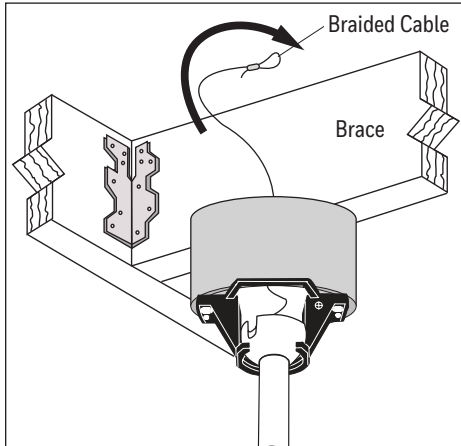

Figure 4.1
- 1. WARNING:** Secondary support is required for this product. Failure to follow the steps below could result in property damage and/or personal injury. Feed the loop of the braided cable, preassembled to the motor assembly, up through the outlet box mounted in the ceiling (Figure 4.1).